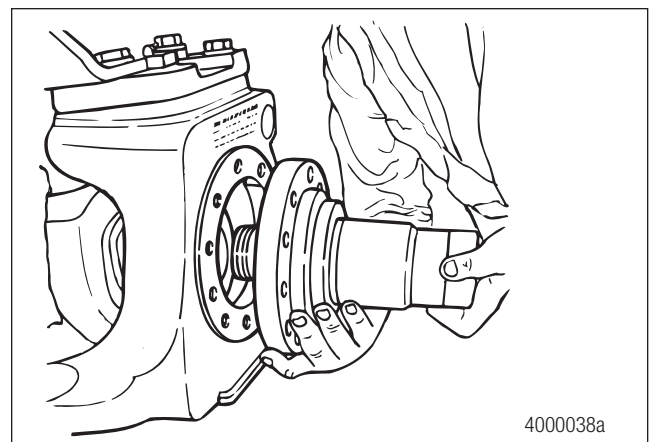
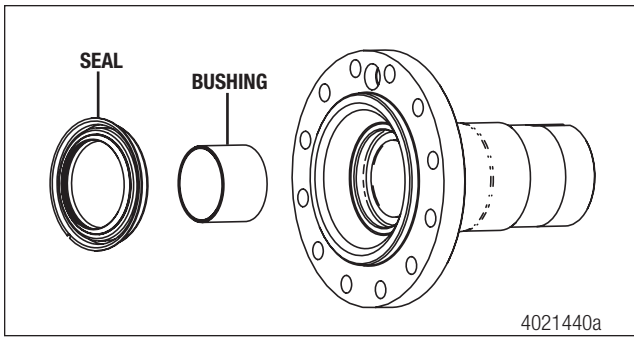

Figure 4.20
Figure 4.21
3. Pull the spindle straight from the knuckle and axle shaft. The grease seal and bushing will remain inside the spindle. If necessary, remove these parts with the appropriate tool. Figure 4.20 and Figure 4.21.